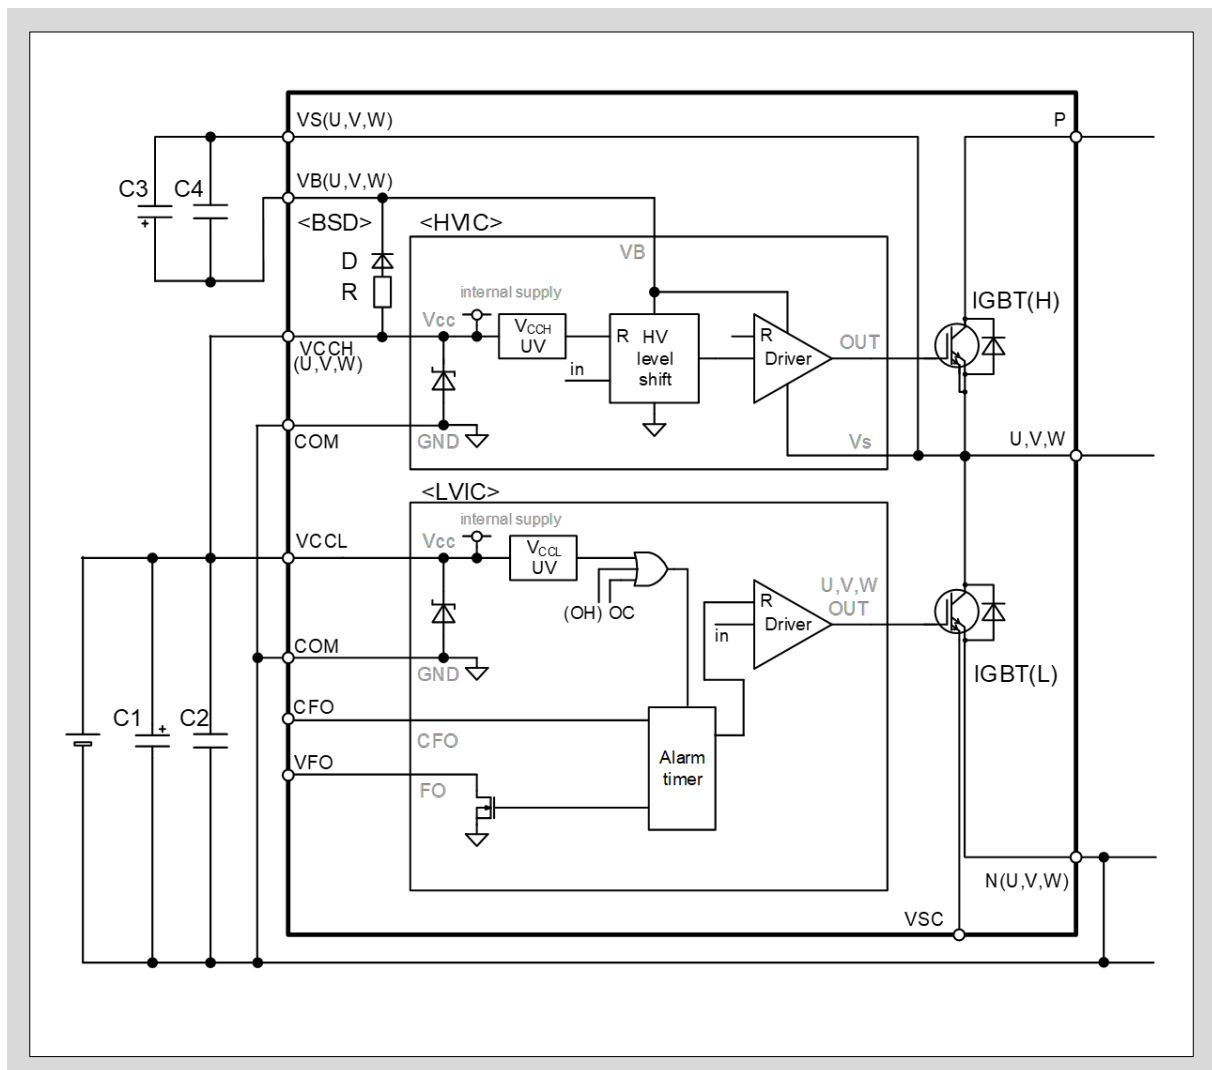

Fig. 3-1 UV protection circuit of high-side and low-side control power supply
**<Under voltage (UV) protection of control power supply  $V_{CCH(U,V,W)}$ ,  $V_{CCL}$ >**
- Fig.3-1 shows the UV protection circuit of  $V_{CCH(U,V,W)}$  and  $V_{CCL}$ .
- As shown in Fig.3-1, a diode is connected between  $V_{CCH(U,V,W)}$ -COM and  $V_{CCL}$ -COM terminals. The diode is connected to protect the product from the input surge voltage. Do not use the diode for voltage clamp purpose otherwise the product might be damaged.